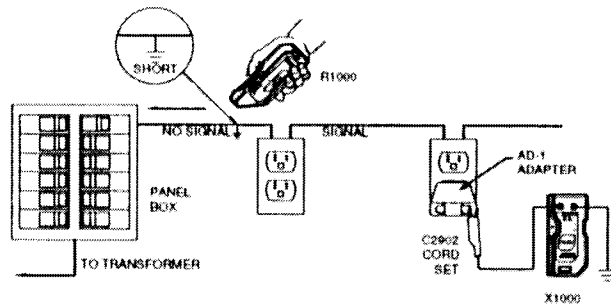

FIG 11 LOCATING SHORTS
- Using the C2902 Cord Set, connect the X1000 Transmitter to the shorted conductor and a separate ground as shown in Fig 11. Use the AD-1 adapter if tracing a conductor connected to a receptacle.